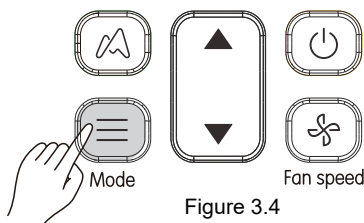

Figure 3.4
1) Press  (see Figure 3.4). Display screen shows the operating mode ;